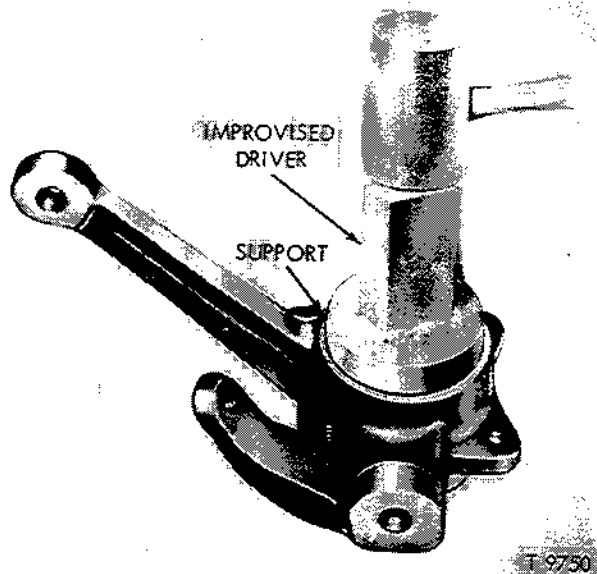

Figure 2-327. Seat bearing cup in support.
(2) Seat cup in support using improvised driver (fig. 2-327).